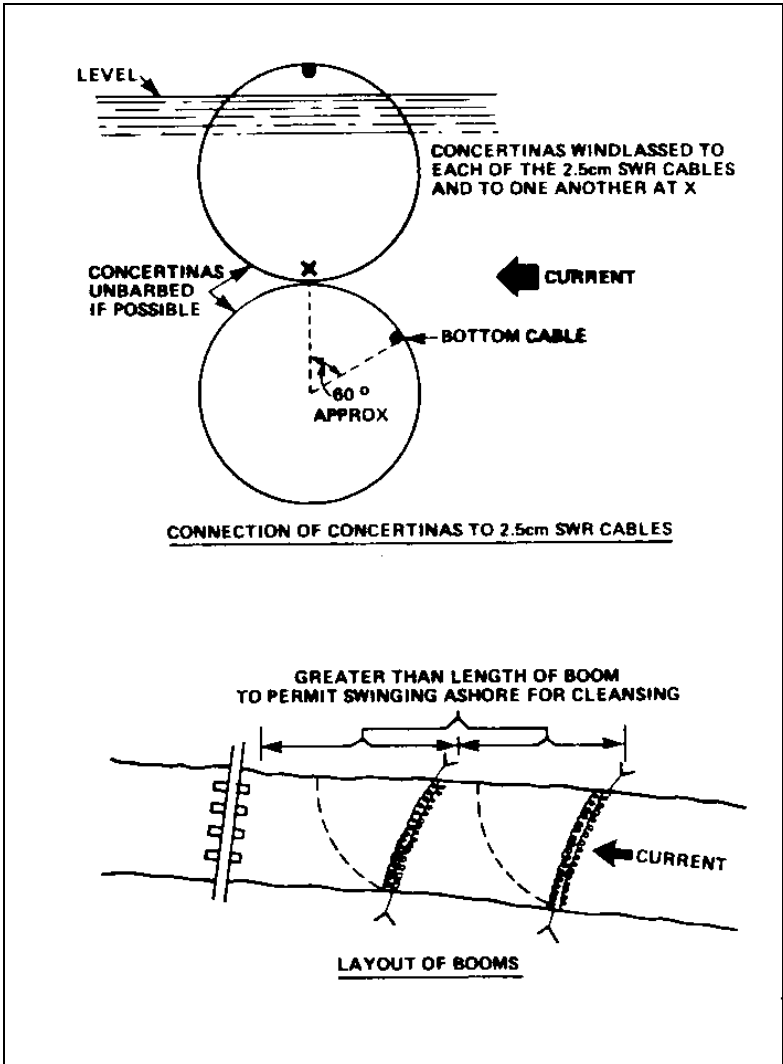

Fig 14-4-9 Concertina Booms
28. Another easily made boom is the concertina boom illustrated in Fig 14-4-9. This should hold up most types of mines and debris as well as being an obstacle to swimmers. The debris accumulates however and the boom must be swung to the bank periodically for cleaning. Therefore two booms are required, one in action and one being cleaned.